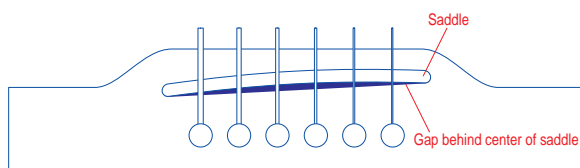

Figure 1 - LONG D-SHAPED SLOT
1. The saddle slot is not distorted into a long "D" shape (Fig. 1) by an overly tall or loose saddle.